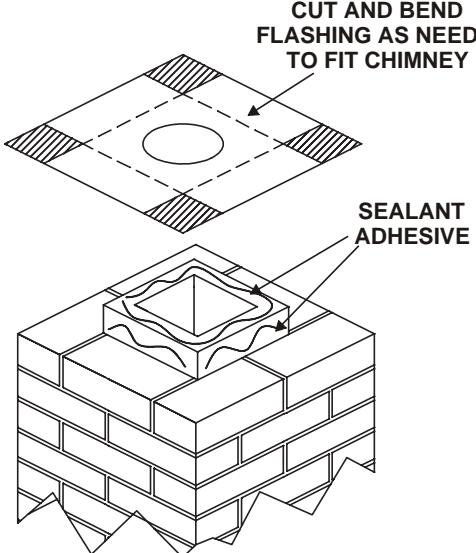

Figure 7.2
- Trim chimney top plate to minimize excess overhang or bend over flue tile (see Figure 7.2).
For installation of termination cap see minimum vent heights for various pitched roofs (see Figure 7.2).